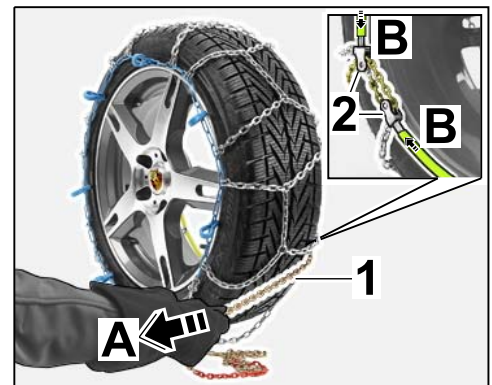

Figure 8
2.2.3 Grasp tensioning chain in the wheel running surface area and pull it firmly (⇒ *Figure 8-A-*).
The spring steel clip on the inside of the wheel closes (⇒ *Figure 8-B-*).